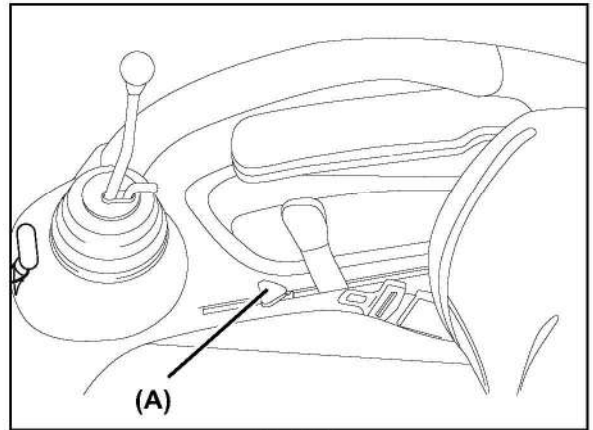

Fig 5-26
### (9) Position stop knob (SA424) (Fig 5-26)